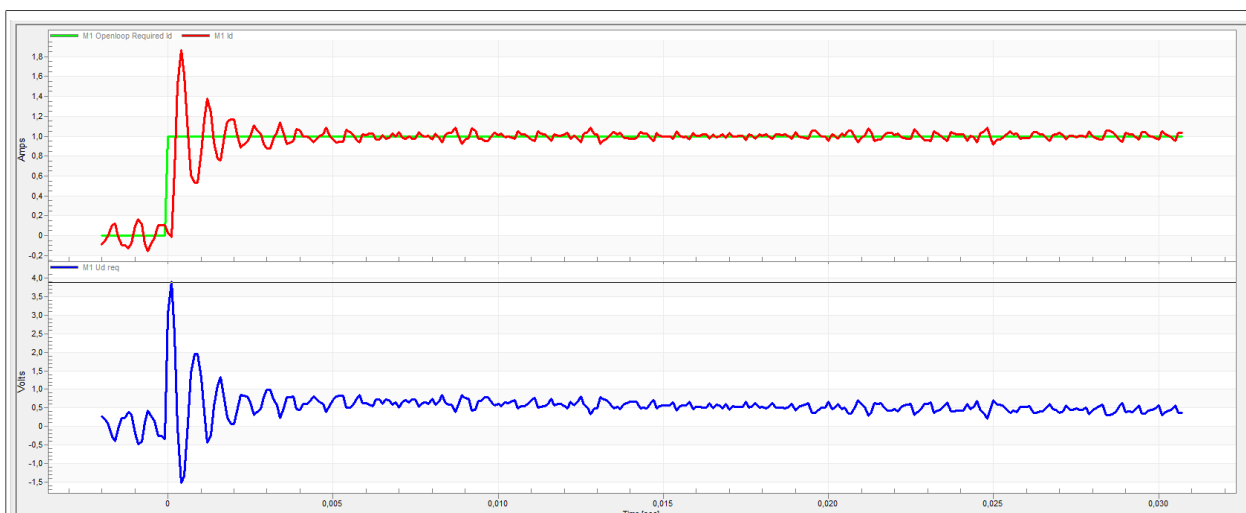

Figure 36. Fast step response of the Id current controller
- The loop bandwidth is high (700 Hz) and the response time of the Id current is very fast, but with oscillations and overshoot (Figure 36).